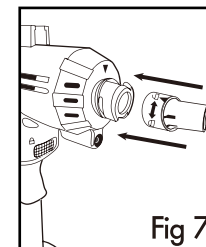

Fig 7
1. Line up the arrows on the "Flexible Air Hose" and "Attachment Lock" on unit. (See Fig 7)